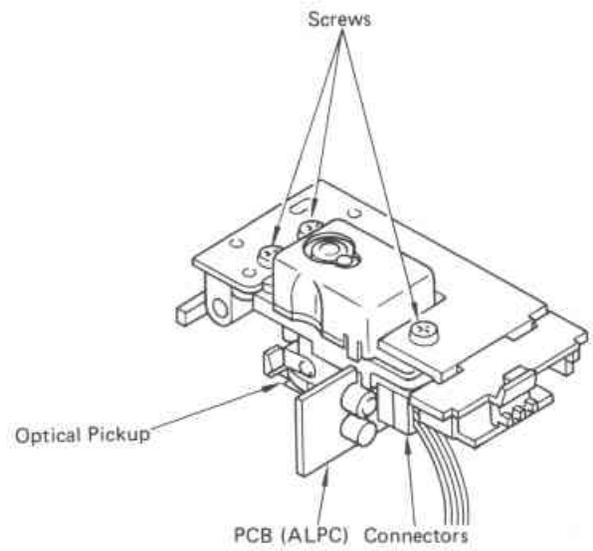

Fig. 6
- 7) Remove the Pickup-Ass'y. (Fig. 6)
- 8) Remove three screws from the pickup holder, and the optical pickup can be removed. (Fig. 6)